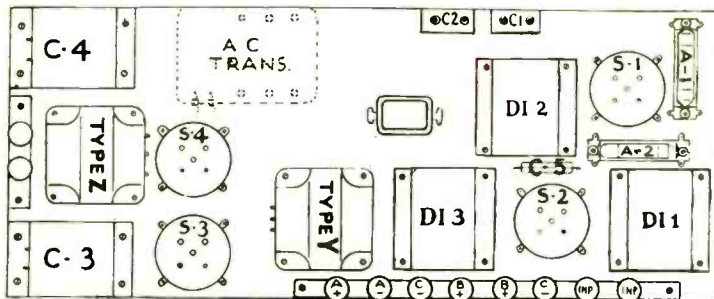

Fig. 2. Baseboard layout of the Tuned Double Impedance Push-Pull Amplifier. This does not include the apparatus for the equalizer stage.
impedance units and two for the push-pull output stage. The wiring diagram of the four tube unit is shown in Fig. 1 and the baseboard layout in Fig. 2.
- 12—Binding Posts, as shown in Fig. 2.